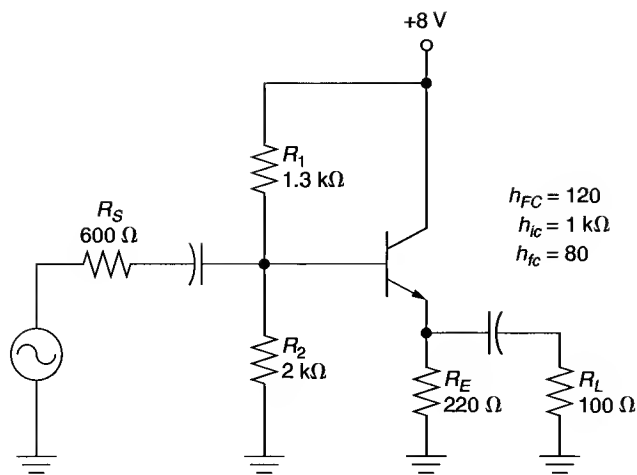

FIGURE 10.21
2. Determine the values of V_B , V_E , and I_E for the circuit shown in Figure 10.21.
4. Plot the dc load line for the circuit shown in Figure 10.21.
6. Determine the value of Z_{in} for the circuit shown in Figure 10.21.
8. Determine the values of A_v , A_i , and A_p for the circuit shown in Figure 10.21.
10. Determine the value of Z_{out} for the circuit shown in Figure 10.21.
27. Refer to Figure 10.21. The circuit has a constant dc emitter voltage of 0 V. Discuss the possible causes of the problem.